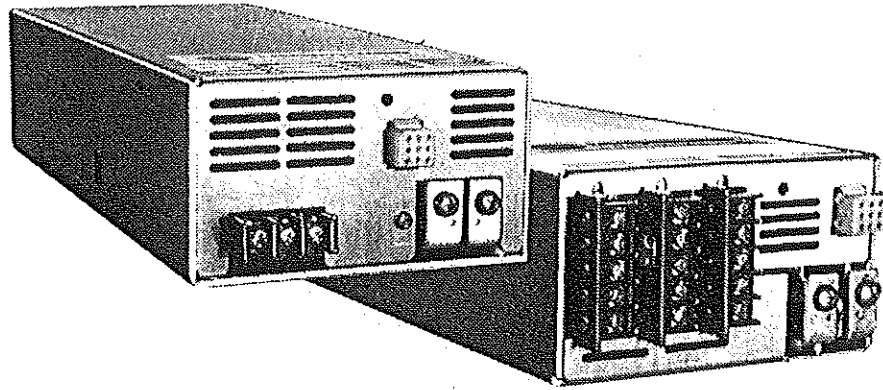

Figure 1. P Series Power Supplies
- 1.2 This series of low-profile switching power supplies combines 100kHz MOSFET switching with high-density packaging employing hybrid surface-mount technology. See Fig. 1. Various standard models have output power from 250 watts to 800 watts with up to five outputs. The supplies are safety agency approved by UL, CSA and TUV. Case height is 2.75 inches (70mm) for 250 to 600 watt single and multiple output units and 3.8 inches (97mm) for 650 and 800 watt multiple output units.